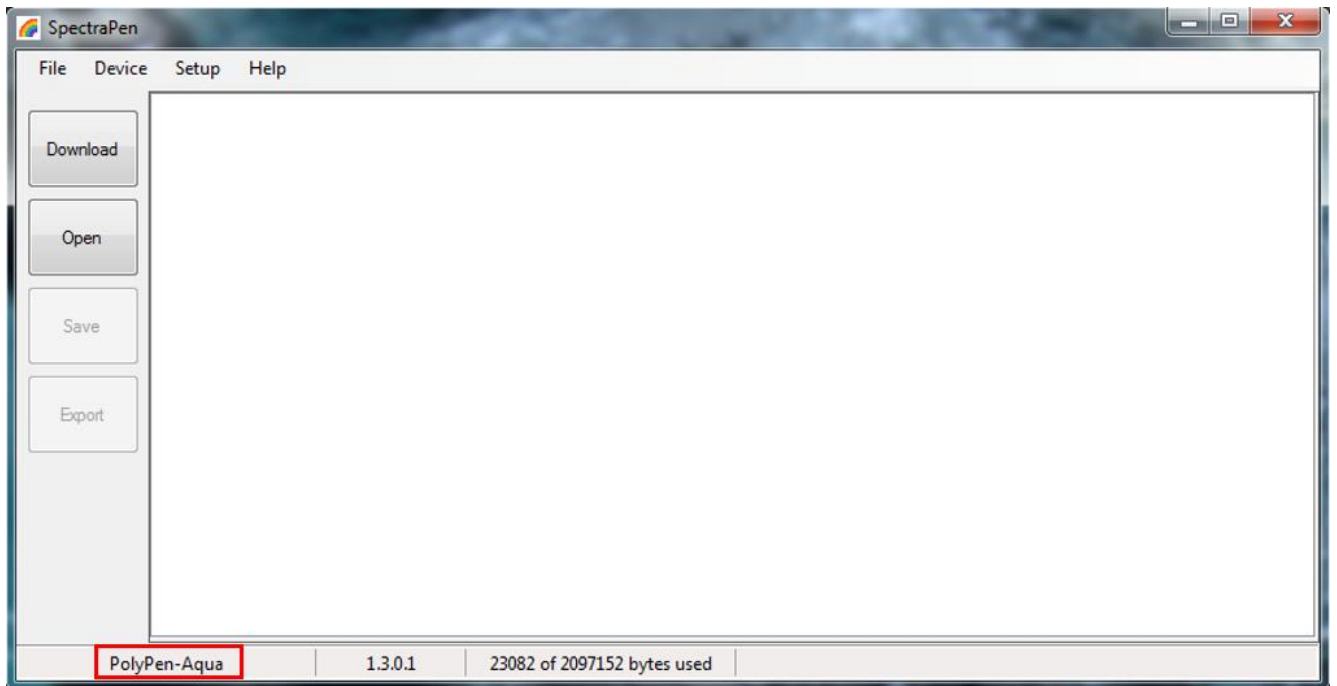
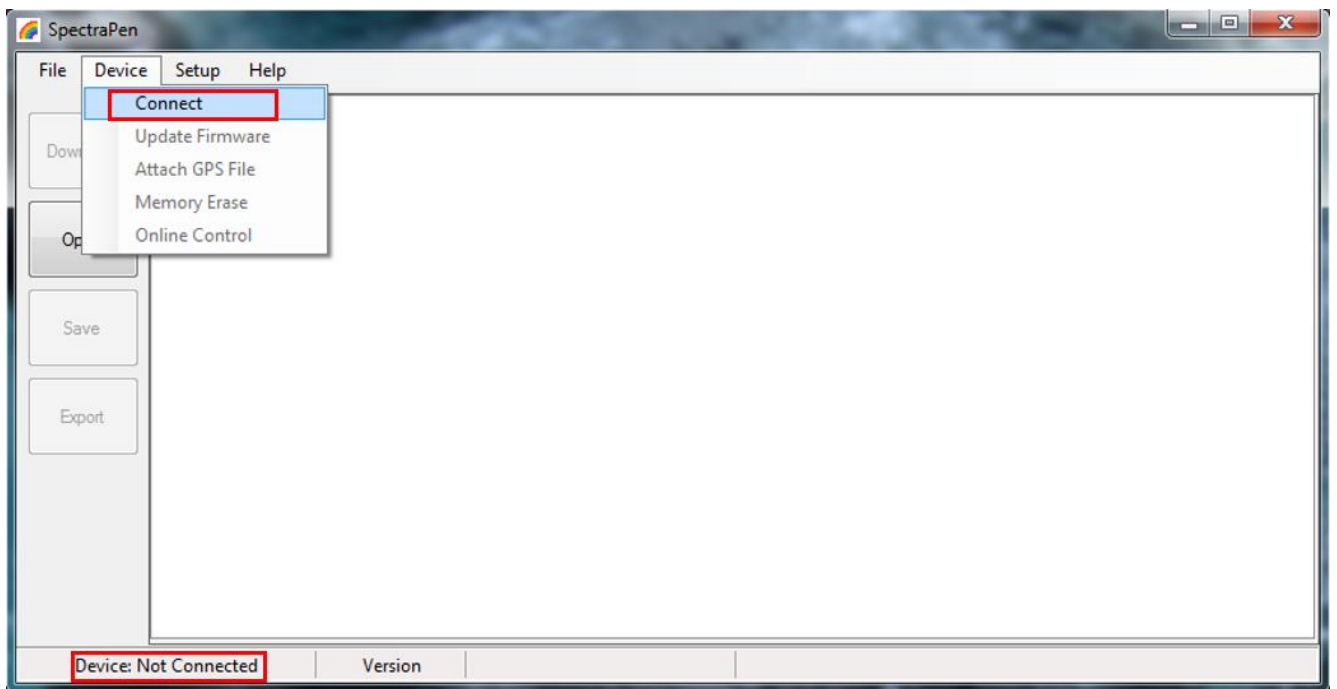

Fig. 21 PolyPen-Aqua connect to the SW.
Fig. 22 Connection failed.
6. When the device is properly connected the left bottom corner of the SW window will display **"PolyPen-Aqua"** (Fig. 21). Otherwise, notification **"Device: Not Connected"** is displayed (Fig. 22).